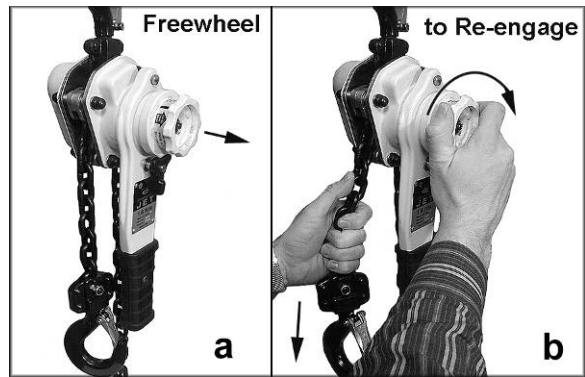

Figure 4
2. Place the selector switch on the handle in the center neutral position, and pull out on the handwheel (Figure 4). This will allow "free-wheel" mode. Pull the load chain by hand to position the bottom hook.
4. Rotate the handwheel clockwise while simultaneously pulling down on the load chain, as shown in Figure 4. The handwheel will snap back into place, re-engaging the gear.